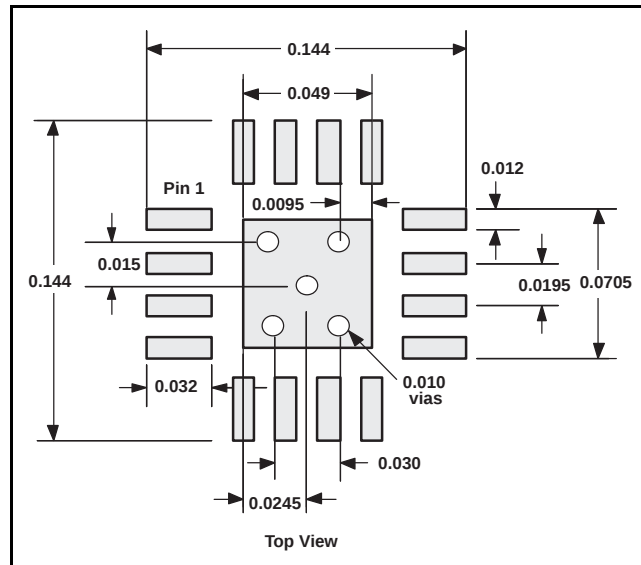

Figure 88. PowerPAD PCB Etch and Via Pattern
9. The recommended printed circuit board (PCB) footprint for the THS4513 is shown in the Land Pattern of Figure 88.
1. Prepare the PCB with a top side etch pattern as shown in Figure 88. There should be etch for the leads as well as etch for the thermal pad.
- Changed item 9 of the *Layout Recommendations* 29
- Moved Figure 88 and associated sentence to beginning of *PowerPAD PCB Layout Considerations* section 30